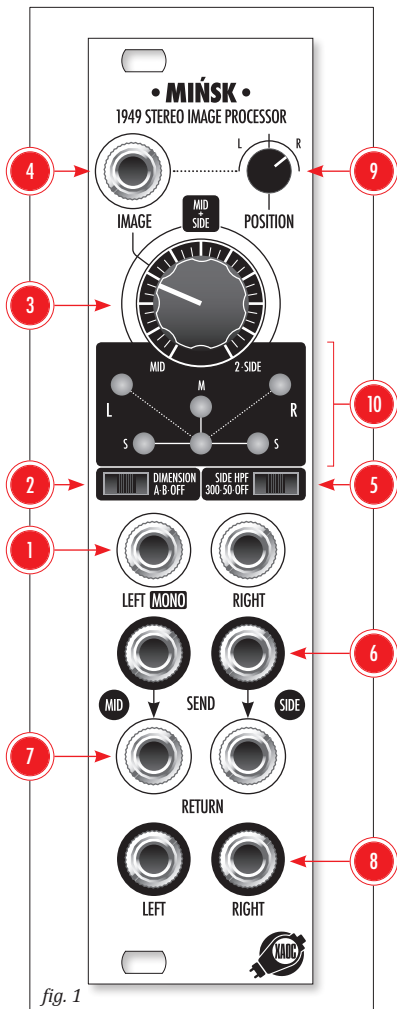

fig. 1
The front panel of Mińsk is shown in fig. 1. The stereo pair of signal inputs ❶ is AC-coupled and accepts all Eurorack signal levels (up to 20Vpp), however, a conservative 10Vpp level is recommended (see the "Signal Levels" section at the end of this manual). The **LEFT/RIGHT** signal pair is translated to a mid/side pair, and subject to an optional stereo enhancement process engaged by the 3-position **DIMENSION** slider switch ❷. The width of the stereo image is controlled by the **IMAGE** knob ❸ and external CV patched into the **IMAGE** jack ❹. Mińsk offers an optional low cut (high pass) filter applied to the side signal and enabled by the **SIDE HPF** switch ❺. The processed and enhanced pair of mid and side signals is available at the **SEND** pair of jacks ❻. You can apply various external processing to either of these and patch the resulting signals to the **RETURN** jacks ❼. There is an internal normalization from **SEND** to **RETURN**. If the **MID RETURN** and/or **SIDE RETURN** jacks are left unpatched, the signal from the **SEND** outputs is sent straight to the **RETURN** inputs. The mid and side pair is converted back to normal stereo and is available at the bottom pair of **LEFT** and **RIGHT** jacks ❽. The **POSITION** knob ❾ adjusts the **LEFT** and **RIGHT** output balance. A set of six LEDs arranged in a setup similar to the traditional goniometer ❿ indicates the strength of the signal along virtual spatial axes.